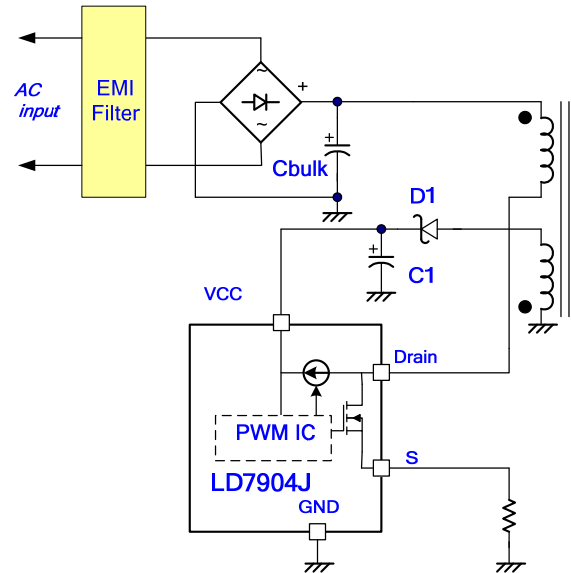

Fig. 13
As shown in Fig. 13, During startup, a high-voltage(HV) constant current source (~1mA) sinks current from the Drain pin to provide the PWM IC start current to and Vcc capacitor C1 charge current. In this period the PWM IC only sink 300uA thus most of the HV current is utilized to charge the Vcc capacitor. After the Vcc higher than UVLO(on) threshold, this HV current source will turn off and LD7904J is start to work then Vcc supply current is provide from the auxiliary winding of the transformer. Therefore, the power losses on the startup circuit can be eliminated and the power saving can be easily achieved. By using such configuration, the turn-on delay time will be almost same no matter low-line or high-line conditions. Whenever the Vcc voltage is higher than UVLO(on).